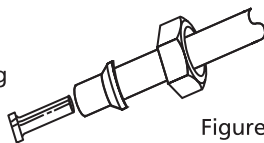

Figure 1
- 4 Install faucet adapter fitting to faucet. *To prevent damage to fitting, do not over-tighten.* Insert a section of plastic tubing into fitting, ensuring the end of the tubing is firmly seated to backstop. (See Figure 1)